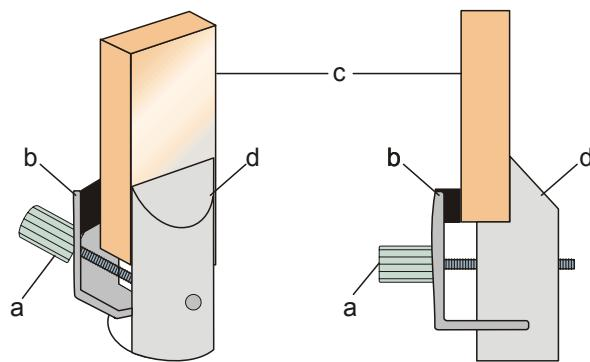

Fig. 5 Insertion of crystal into sample holder (a Screw, b Clamp, c Crystal, d Fixed section of sample holder)
- Remove the clamp from the sample holder and place the mounting clip for glass rods (from 1000665) in the sample holder (see Fig. 5).
- niometer so that impinging and reflected beams are on the angled side of the sample holder (see Fig. 5).